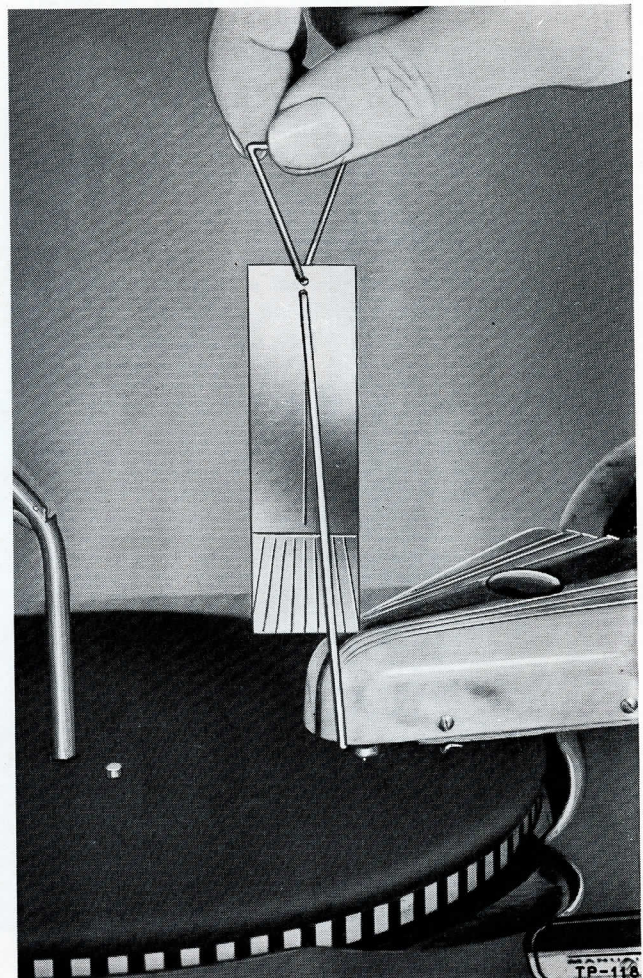

FIGURE 25. MEASURING TONE-ARM HORIZONTAL FRICTION
7. Check the horizontal friction with the changer disconnected from the power source and the control switch in the MANUAL position. Attach the pendulum scale, Part No. 45-2953, to the pick-up plastic cover, as shown in figure 25.
8. Move the attached scale and tone arm from the support towards the spindle and note the reading, as shown in figure 25. The tone arm must be moved over the entire area travelled during the reproduction of a record.
7. With the fixed roller on the pulsating arm off the turntable-hub crown (unpulsed position) and the operating switch in AUTOMATIC, attach the pendulum scale, Part No. 45-2953, to the plastic cover on the tone arm, as shown in figure 25. Measure the horizontal drag of the tone arm over the area of travel while the rubber roller on the bucket contact and the pulsating plate are engaged. The correct reading should be $\frac{1}{2}$ oz. The scale has a maximum calibration of $\frac{1}{4}$ oz.; therefore the $\frac{1}{2}$ -oz. reading must be determined by the amount of off-scale reading. If the reading is greater than $\frac{1}{2}$ oz., the adjusting screw on the trip and positioning assembly must be turned out slightly to reduce the pressure until $\frac{1}{2}$ oz. is obtained.